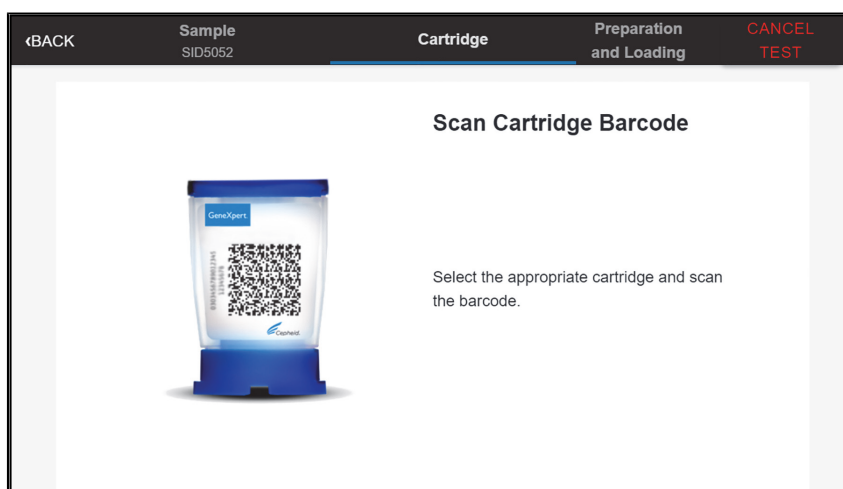

Figure 14. Scan Cartridge Barcode Screen
8. Verify the Sample ID and touch **CONFIRM**. The Scan Cartridge Barcode screen appears (see Figure 14).